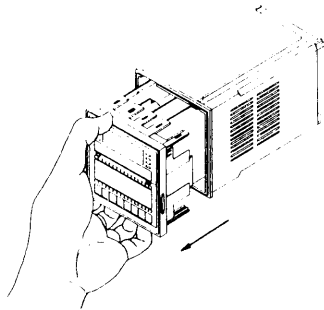
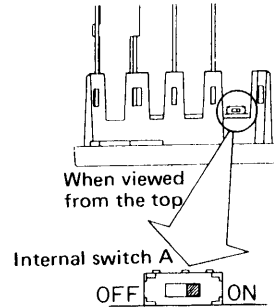

Fig. 1
Fig. 2
As shown in Fig. 1, pull out the internal chassis from the housing while pushing up the stopper at the bottom of the instrument with fingers. Thus, it can be withdrawn from the housing. Next, as shown in Fig. 2, turn ON the internal switch A at the top of the instrument, then push the internal chassis into the housing. Thus the instrument is set to the user initial setting mode.
In order to exit from the user initial setting mode, turn OFF the internal switch shown in Fig. 2.
Pull the internal chassis from the housing as shown in Fig. 1. Turn the internal switch B on the top of the instrument to ON as shown in Fig. 3, then return the internal chassis to the housing. Turning the power supply ON causes the display units to display parameter as shown in ①. Pressing the (PARA) key starts adjustment, and the display automatically changes in the order of ① → ② → ③ → ④ shown. Adjustment is complete when display ④ appears. Then, turn the internal switch B shown in Fig. 3 to OFF to return to the normal status.
* If another instrument is installed right beside this instrument, it may be difficult to insert a pattern card in the above way. In this case, pull the internal chassis slightly forward as shown in Fig. 1 to arrows you to insert the card.